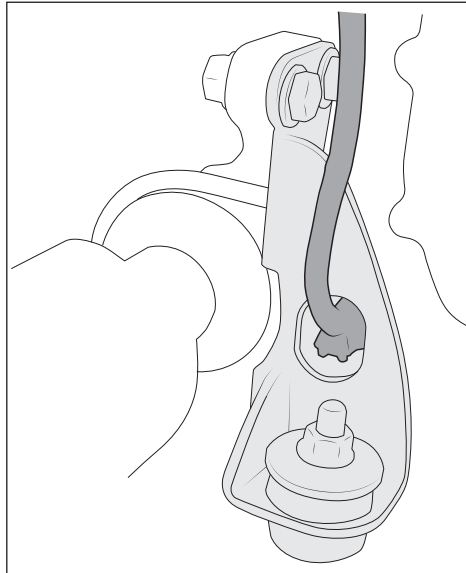

Figure 23
- E. Plug wire harness back in through hole in bracket (fig. 23).